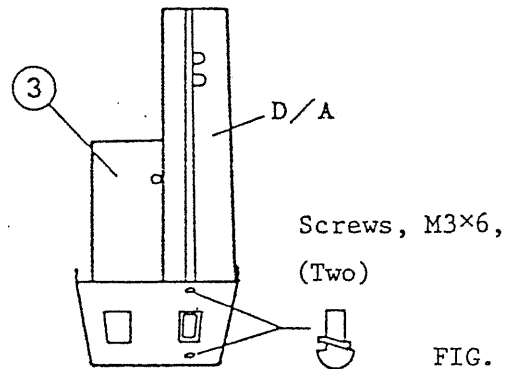

FIG. 5
- 2) Fix the D/A converter to D/A bracket (3). (See Figure 5)